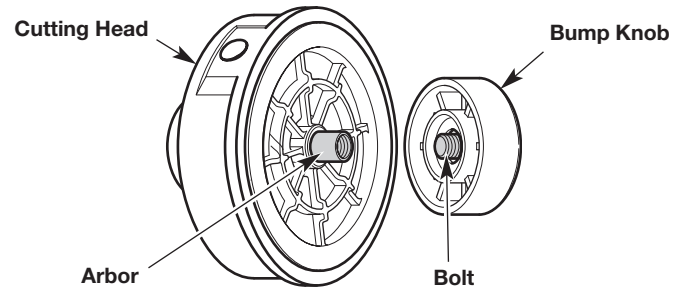
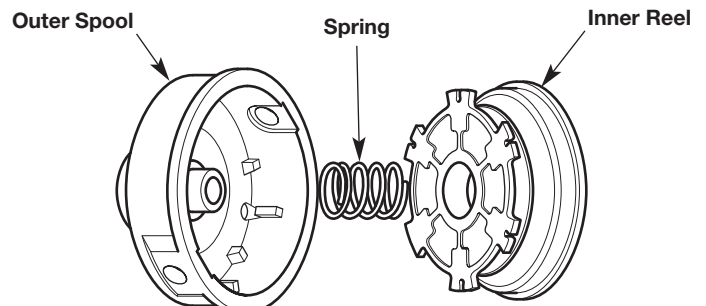

Fig. 17
Fig. 18
- Hold the cutting head in place (Fig. 17).
- TB22:** Turn the bump knob counterclockwise to unscrew it from the cutting head (Fig. 17). The outer spool (Fig. 18) will remain attached to the unit.
- TB252S:** Turn the bump knob clockwise to unscrew it from the cutting head (Fig. 17). Slide the cutting head off of the arbor (Fig. 17).
- Inspect the bolt inside the bump knob to make sure it moves freely (Fig. 17). Replace the bump knob if it is damaged.
- Remove the inner reel from the outer spool (Fig. 18).
- Remove the spring from the inner reel (Fig. 18).
5. **TB252S:** While holding the inner reel and outer spool together, slide the cutting head onto the arbor (Fig. 17). Make sure that the cutting head fits securely onto the hexagonal portion of the arbor.
- **TB22:** Screw the bump knob on clockwise (Fig. 17).
- **TB252S:** Screw the bump knob on counterclockwise (Fig. 17).